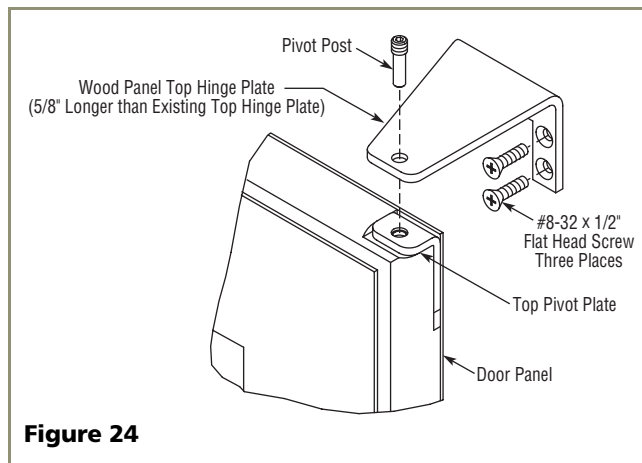

Figure 24
- Install the new Replacement Top Hinge onto the unit (see **Figure 24**).